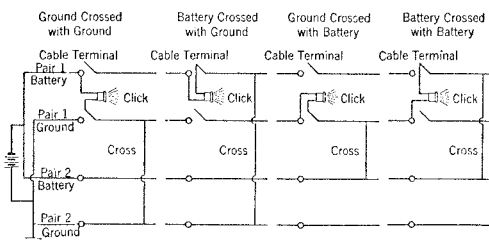

Fig. 13
5.04 In isolating a cross to a portion of the plant, such as to the drop or block wire plant or to a portion of a drop or block wire make the following test. (See Figure 13.)